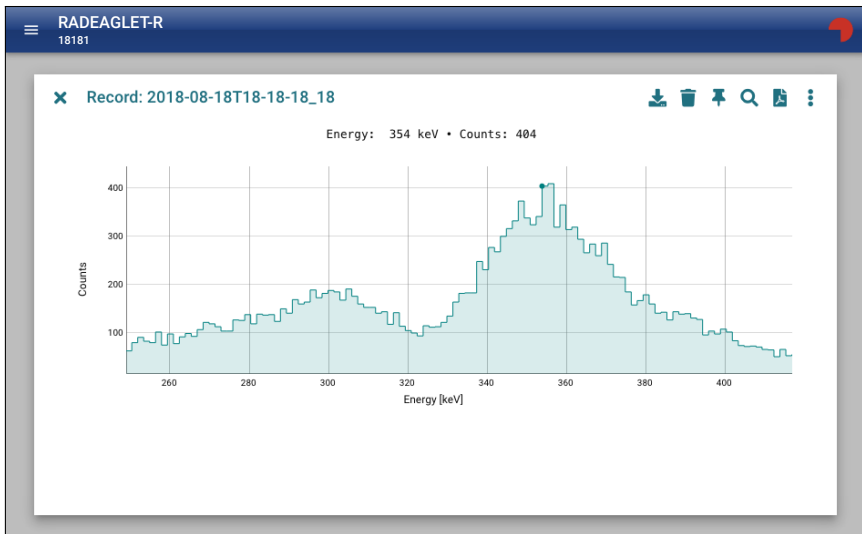

Figure 108: Enlarged part of the spectrum
3. Release the mouse button. The enlarged region shows up (Fig. 108, p. 106)